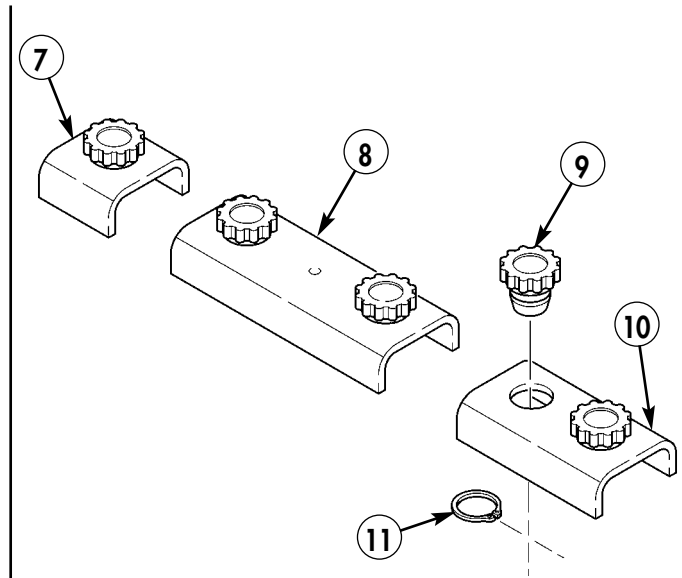

Figure 5-5.
- 3-7. Install five nut sleeves (9) in terminal board covers (7), (8), and (10), and secure with five snaprings (11) as shown in figure 5-5.